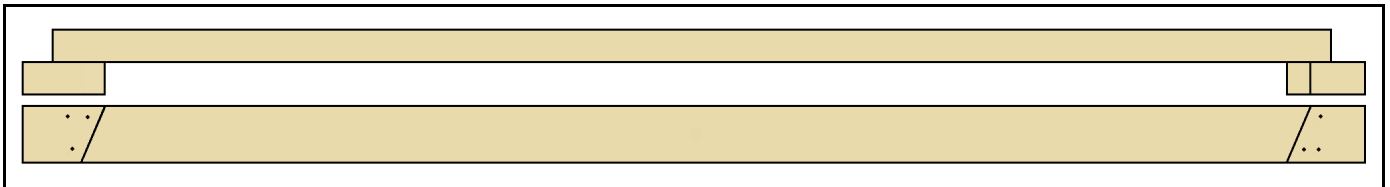

FIGURE 8
- ⇒ *Figure 8* shows the top board with the cut-offs (feet) attached. The side view (upper figure) has the bottom board removed for clarity (keep them clamped together for now). The bottom view (lower figure) would look the same, with or without the bottom board.